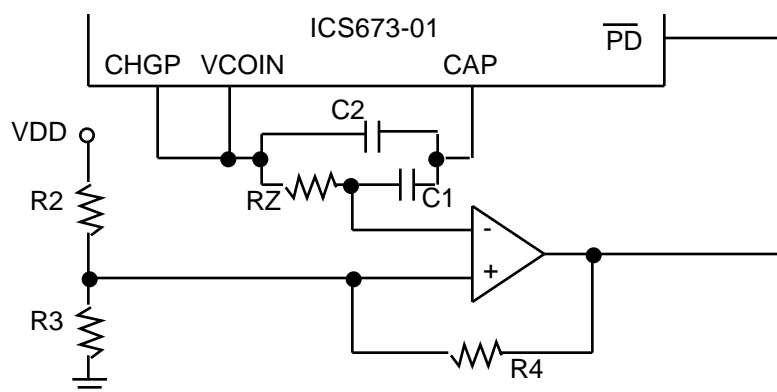

Figure 5. Using an External Comparator to Reset the VCO.
3.A comparator circuit may be used to monitor the loop filter voltage, as shown in Figure 5. This circuit will